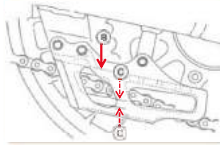

Fig. 2
3. Check the rear sprocket chain guide slider **B** for wear and/or damage. Fig. 2